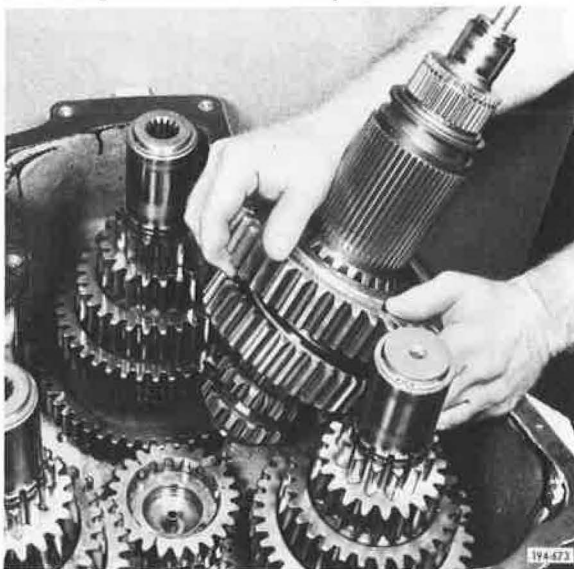

Figure 355. Installing Mainshaft
14. Install mainshaft assembly into main box. Advance mainshaft all the way forward to completely seat the spigot bearing into the main box main drive pinion. See Figure 355.